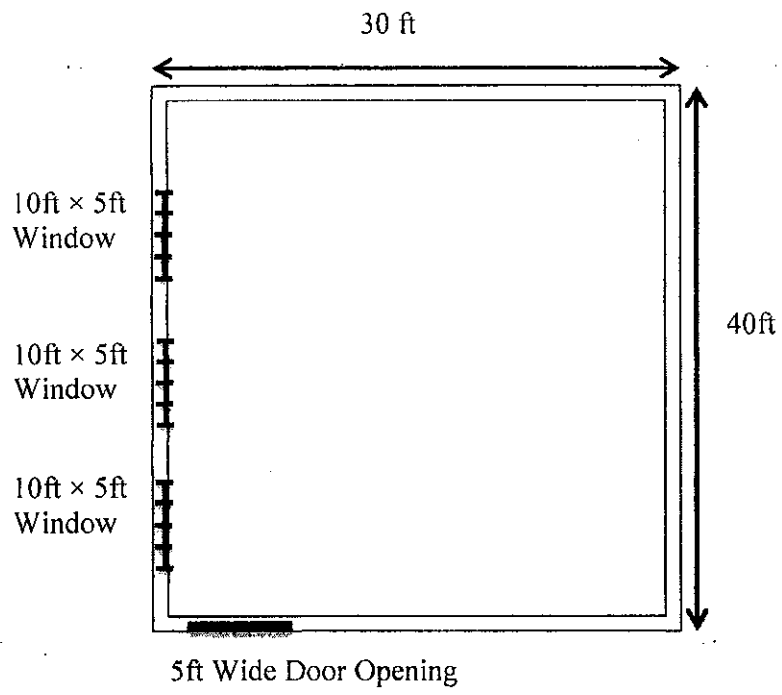

Figure Q4: Office Room Plan
- b) Determine the total cooling load capacity required for an office room on the upper floor of a two storey factory building in which ground floor is not air conditioned. There will be a total of twelve clerical staff in the office. It is planned to have eight computers, and a photocopy machine. Each computer will emit about 25W of heat and the photocopy machine will emit about 15W of heat. A 40W bulb will be provided for each 100ft2 floor area. There are three glass windows of 10ft × 5ft on the wall facing the West direction as shown in Figure Q4. Wall height is 10ft. Outside temperature is 32°C. Clearly state all the assumptions you made. Use data sheet 7 and attach it to the answer booklet.